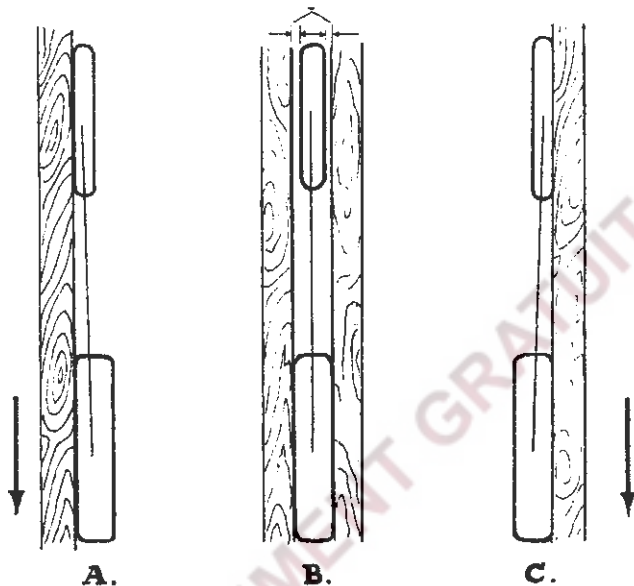

FIG. F.25. *Checking alignment.*
If the front tyre is of smaller section then it should be as drawing (B) Fig. F.25.